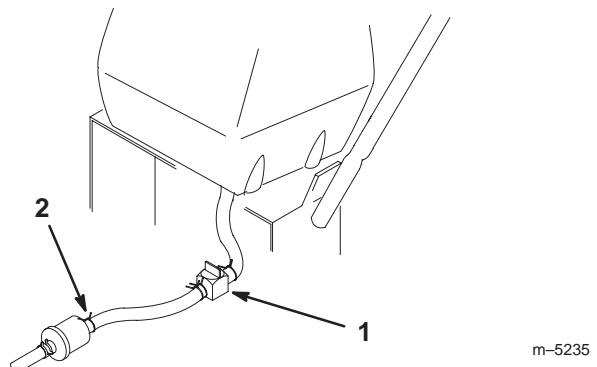

Figure 43
2. Close the fuel shut-off valve at the fuel tank (Fig. 43).
3. Squeeze the ends of the hose clamp together and slide it up the fuel line away from fuel filter (Fig. 43).
4. Pull the fuel line off the fuel filter (Fig. 43). Open the fuel shut-off valve and allow the gasoline to drain into a gas can or drain pan.
3. Close fuel shut-off valve at fuel tank (Fig. 43).
7. Open fuel shut-off valve at fuel tank (Fig. 43).